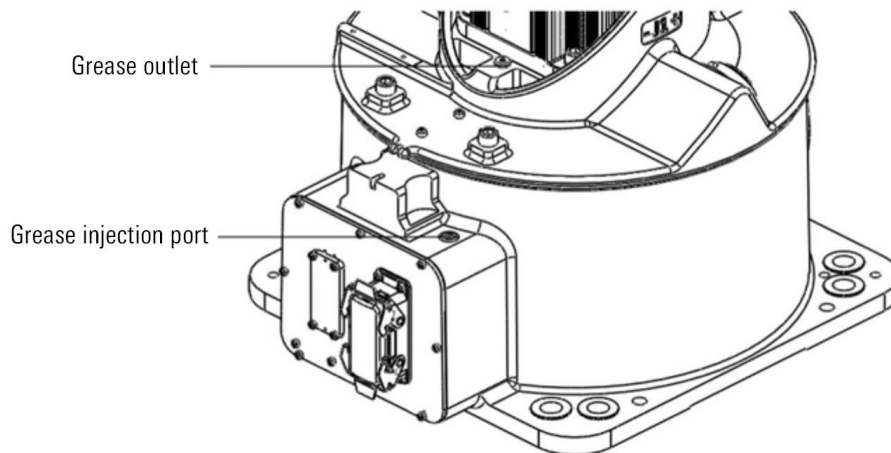

Figure 12-4 Replace the lubricating grease of J1 axis reducer
- Step4. Remove the M10x1 plug from the grease outlet, as shown in Figure 12-4.